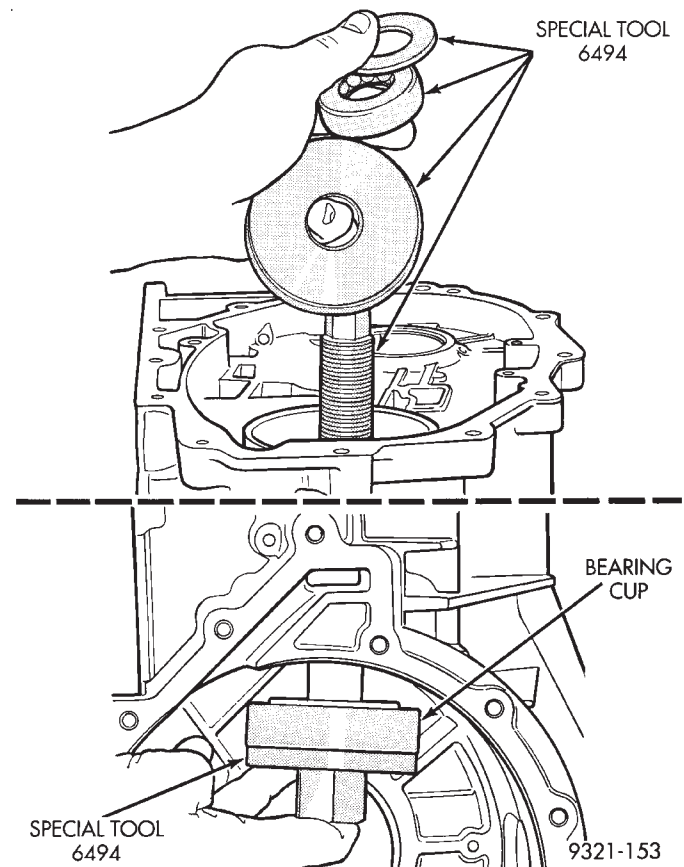

Fig. 250 Install Front Transfer Shaft Cup
(1) Install front transfer shaft bearing cup (Fig. 250). The transfer shaft bearing cup must be installed before making pinion depth measurement. Use special tool 6494 to install bearing cup. There are no shims located behind this bearing cup.